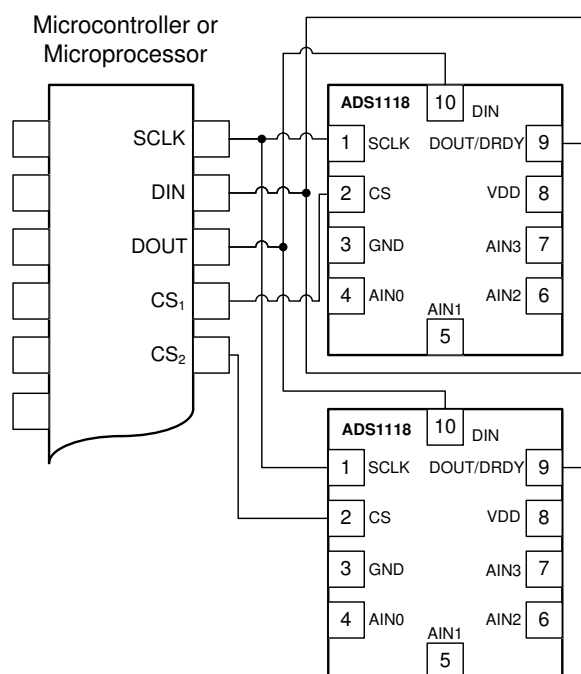

**Figure 46. System Component Placement**
It is recommended to employ best design practices when laying out a printed circuit board (PCB) for both analog and digital components. This recommendation generally means that the layout should separate analog components [such as ADCs, op amps, references, digital-to-analog converters (DACs), and analog MUXs] from digital components [such as microcontrollers, complex programmable logic devices (CPLDs), field-programmable gate arrays (FPGAs), radio frequency (RF) transceivers, universal serial bus (USB) transceivers, and switching regulators]. An example of good component placement is shown in Figure 46. While Figure 46 provides a good example of component placement, the best placement for each application is unique to the geometries, components, and PCB fabrication capabilities being employed. That is, there is no single layout that is perfect for every design and careful consideration must always be used when designing with any analog components.